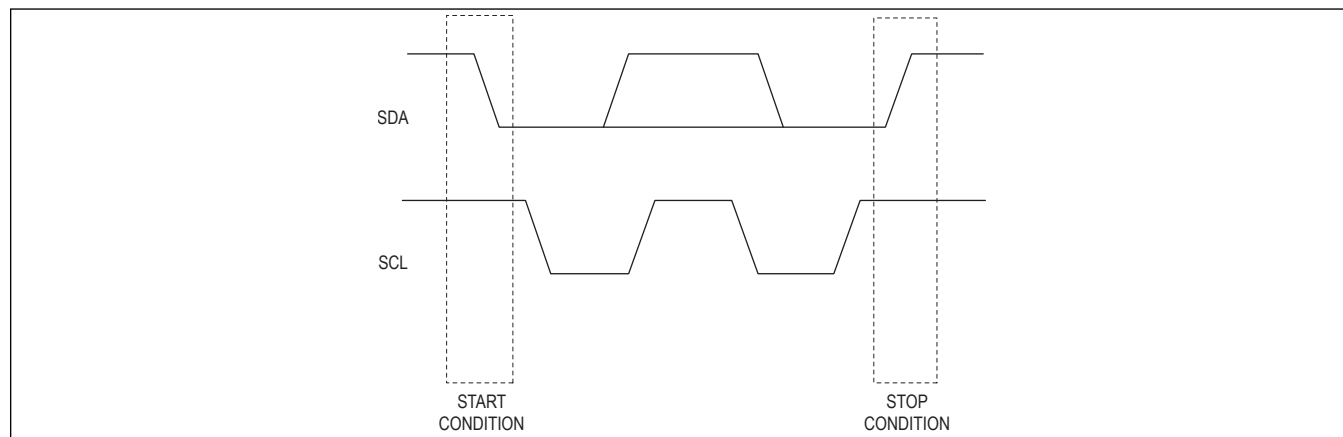

Figure 22. I^2C START and STOP Conditions
Both SCL and SDA remain high when the bus is not busy. The master signals the beginning of a transmission with a START (S) condition by transitioning SDA from high to low while SCL is high. When the master has finished communicating with the IC, it issues a STOP (P) condition by transitioning SDA from low to high while SCL is high. The bus is then free for another transmission (Figure 22). Both START and STOP conditions are generated by the bus master.